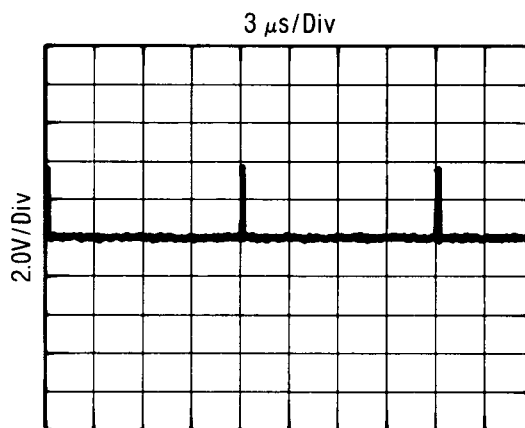

Figure 8-27. A2A5TP3, A2A3 Test Switch HIGH
4. Press RCL 0 and connect the oscilloscope to A2A5TP3. The waveform should be as shown in figure 8-27.